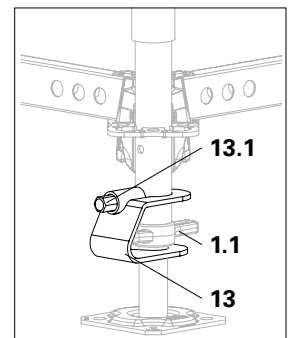

Fig. B1.01d
5. Secure the base spindles with spindle locking. (Fig. B1.01d)